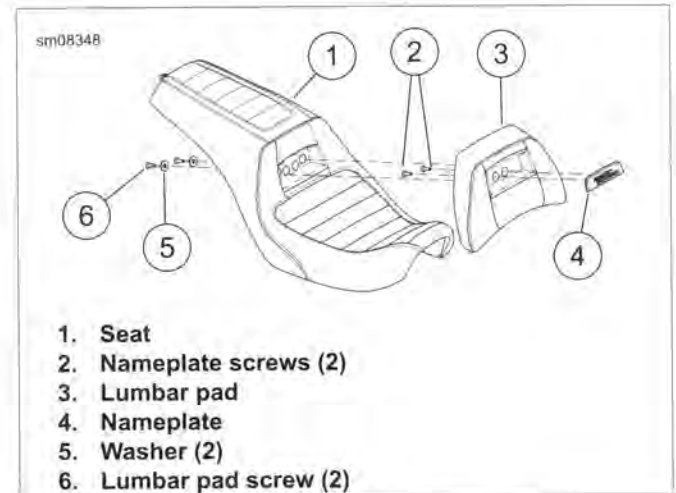

Figure 2-147. Lumbar Pad: FXDL
1. See Figure 2-147. Remove seat (1).
2. Remove lumbar pad screws (6) and washers (5) from the lumbar pad (3).
3. Remove nameplate screws (2) from the nameplate (4).
5. Place nameplate on seat (1).
1. See Figure 2-147. Remove screws (2) from nameplate (4).
2. Place nameplate on lumbar pad (3).
4. Insert lumbar pad on seat (1).
5. Install screws (6) and washers (5) to lumbar pad. Tighten to 48-60 **in-lbs** (5.4-6.8 Nm).